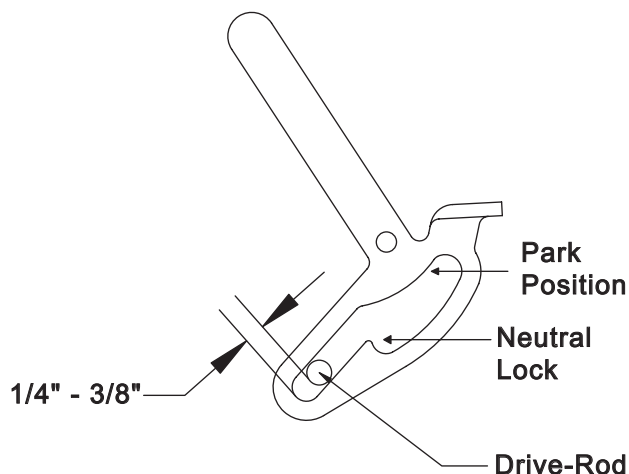

Fig. 2
7. Using drive rods provided, turn them into the 5/16" swivel located in the left and right hand idler engagement bracket. Adjust the rods so that there is approximately 1/4" to 3/8" between the rod and the bottom of the thumb latch. Rods should be locked in place by using 4 – hair pin cotters and by placing a 5/16" flat washer to be inside of the drive handle between the drive lever and hair pin cotter. (See fig.2)